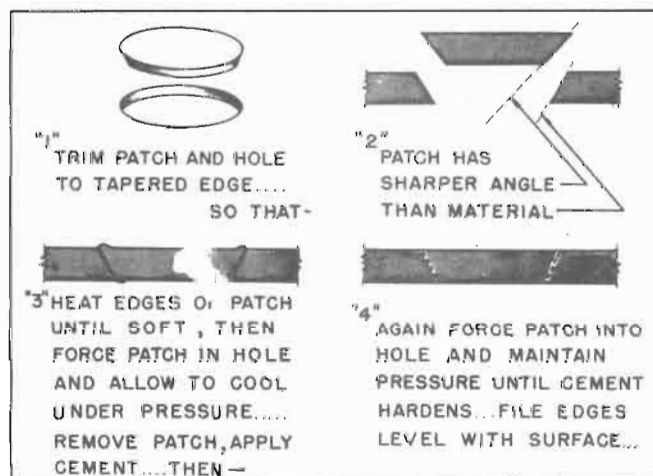

Figure 101 — Repairing Holes in Plastic Panels
5. REPAIRING HOLES.—(See figure 101.)—The first step in repairing holes in transparent plastic panels is to trim the hole and surrounding cracks to a